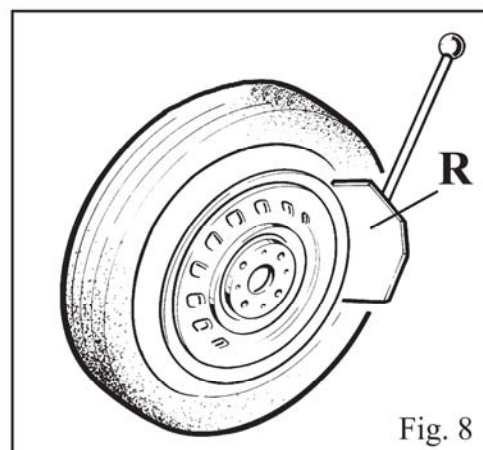

Fig. 8
- Position the wheel against the rubber stops on the right side of the tire changer (S).
- Position the bead breaker (R) against the tire bead at a distance of about 1 cm from the rim (fig. 8). Pay attention to the blade, which must operate correctly onto the tire and not onto the rim.
- Press down the pedal (U) to activate the bead breaker and release it when the blade has reached the end of its travel or in any case when the bead is broken.